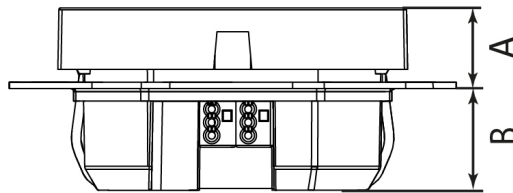

Figure 5: Installation dimensions
**Installation dimensions (see figure 5)**